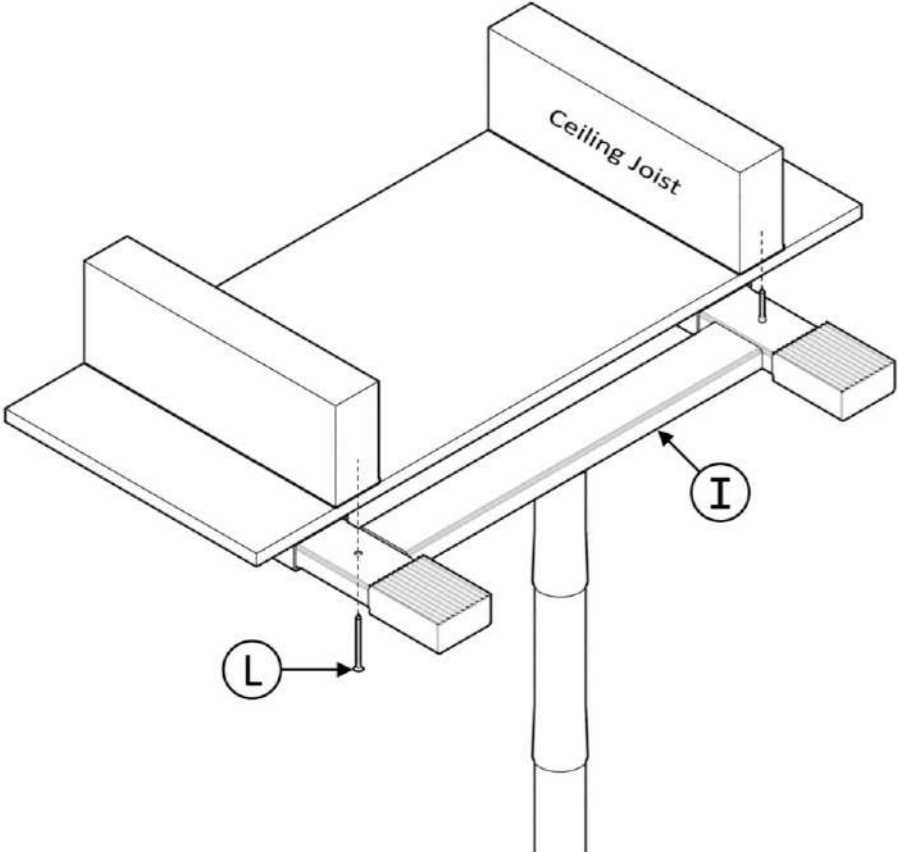

FIGURE 4
4. **OPTIONAL:** Use provided screws, **L**, ensuring **L** goes into the Ceiling Joists as shown in *FIGURE 4*.